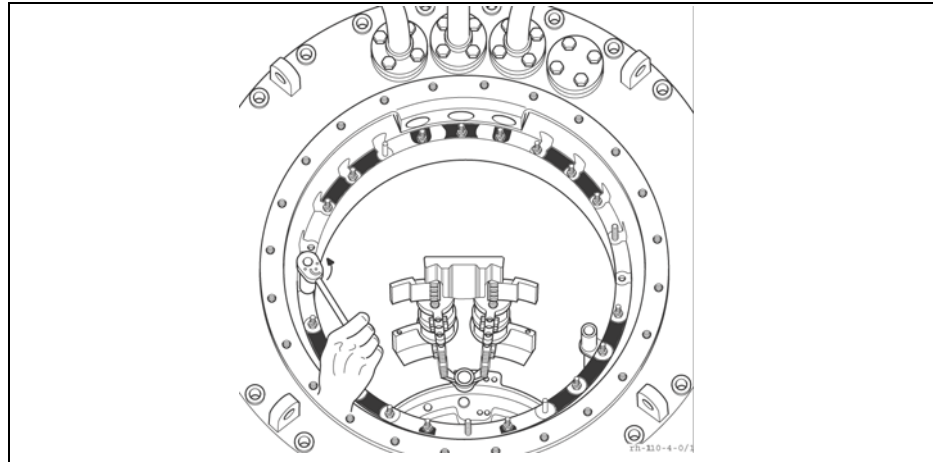

Figure 25 Securing on-load tap-changer head
6. Fasten the on-load tap-changer head by screwing the nuts to all studs in the red marked region not covered by the diverter switch insert base plate (**Figure 25, Chapter 5.3**).